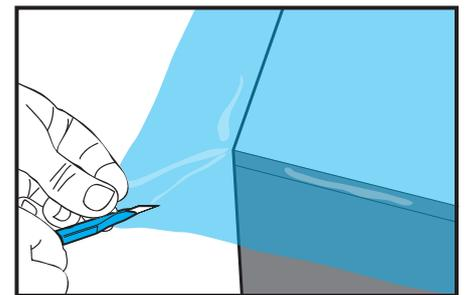

Figure 04
- › Cut the film diagonally, starting from the corner of the table. (FIG. 04)